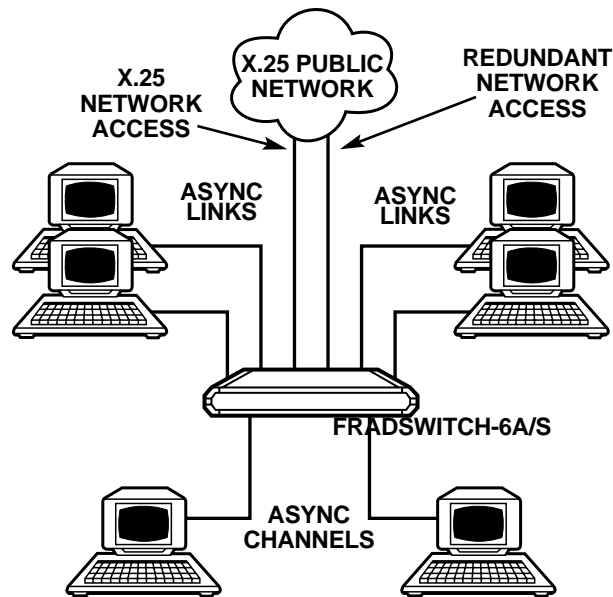

Figure 2-3. Fradswitch-6A/S serving as a PAD with redundant link and load sharing. Several links are configured as async channels.
- Public Network access via redundant links. (See **Figure 2-3.**)
The Fradswitch links can be programmed to operate asynchronously, allowing connection of asynchronous devices to the links. When programmed to operate as async, the links operate like Fradswitch async channels with all the standard facilities. (See **Figure 2-3.**)